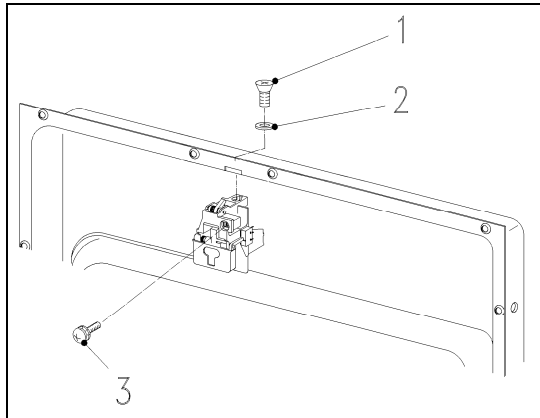

Figure 5-15: Lock Removal
3. Open the door and remove the screw (Figure 5-15, Item 3).